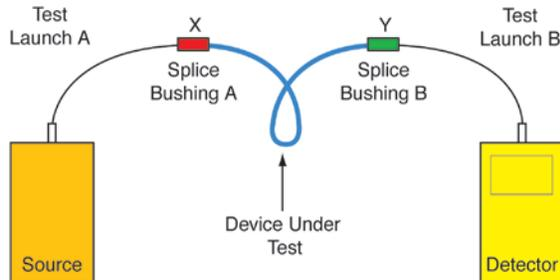

Figure 4
- The test launch jumpers A and B are disconnected at Splice Bushing A. Connector ends “X” and “Y” of the device under test are connected to Splice Bushings A and B, respectively (see Figure 4). The detector displays dB loss which represents optical power loss at the “X” connection (due to misalignment, concentricity, angularity, etc.) plus the loss at the “Y” connection, plus attenuation through the length of fiber in the device under test.
For Substitution Method See Figure 4 on page 7.